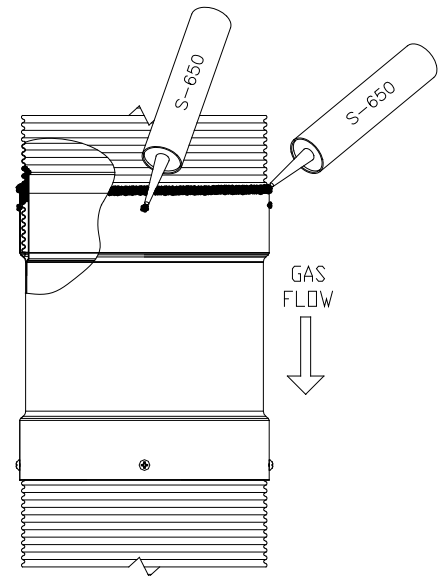

Figure 23 -SecureSeal Flex S-650 caulking
- 3.3. Push the adapter on the liner all the way in, until you can't see the mark made on the flexible liner earlier. Add a bead of the S-650 red caulking all around the outer junction of the adapter and the flexible liner to make sure everything is well sealed. Also add over the screw holes (**Figure 23**).